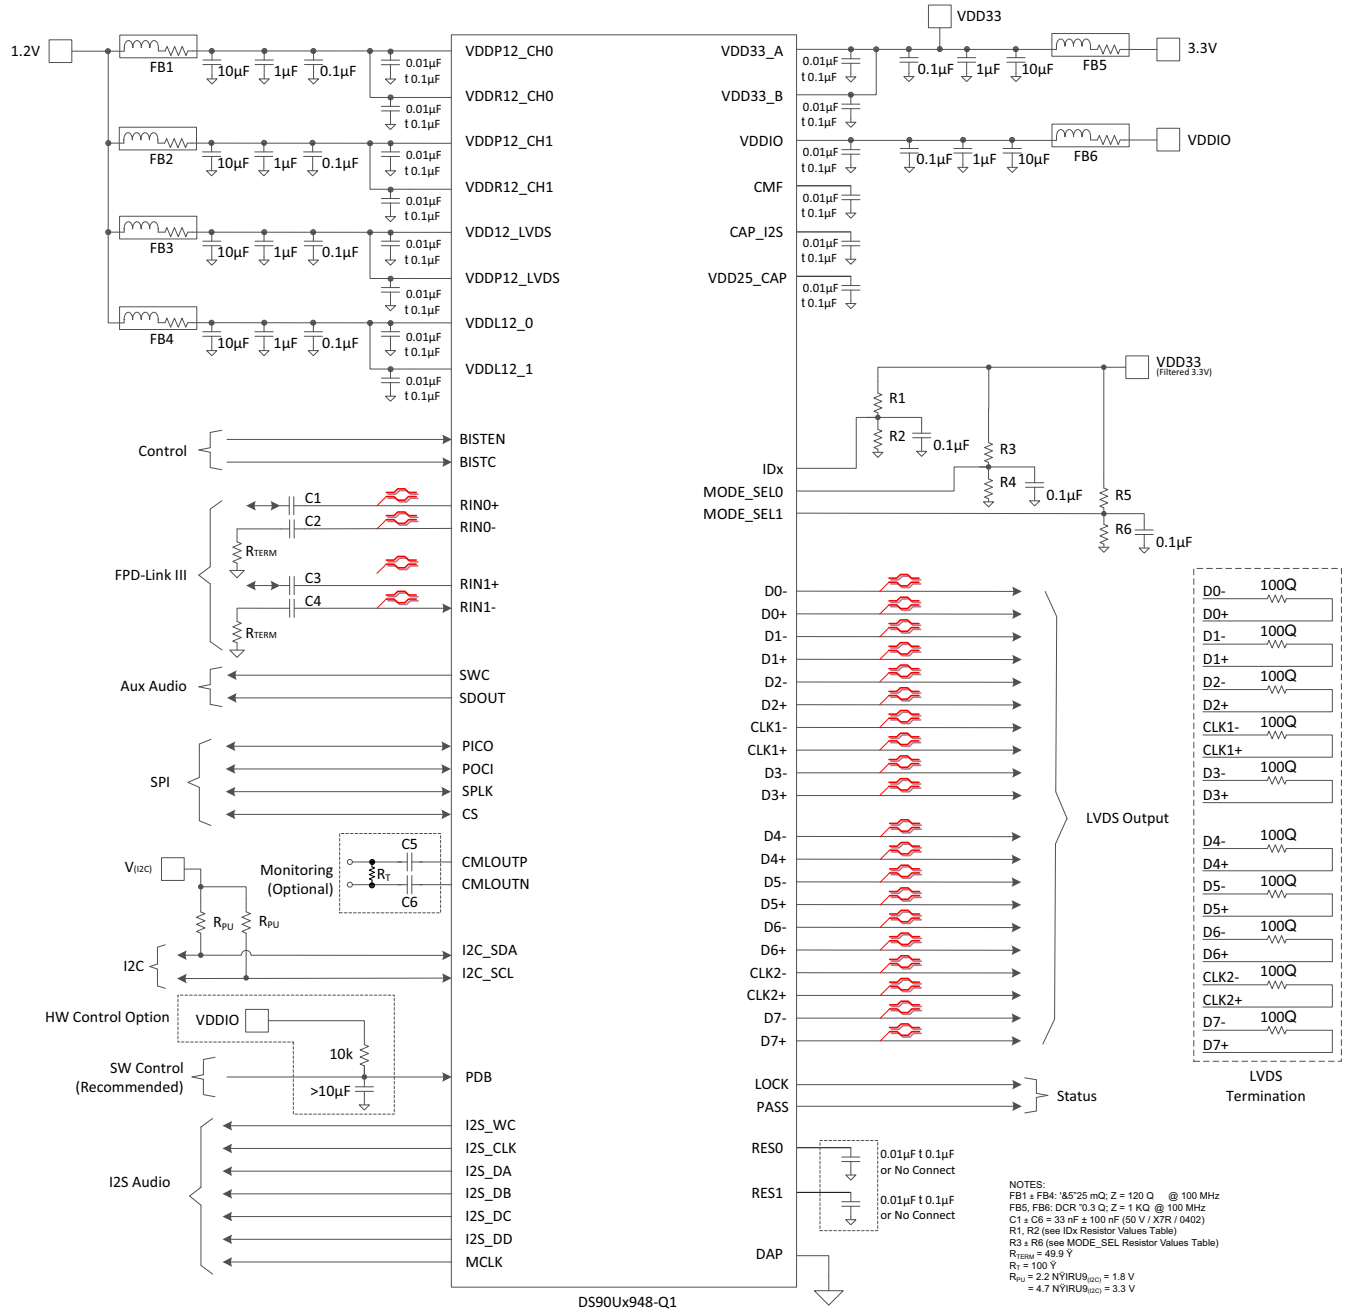
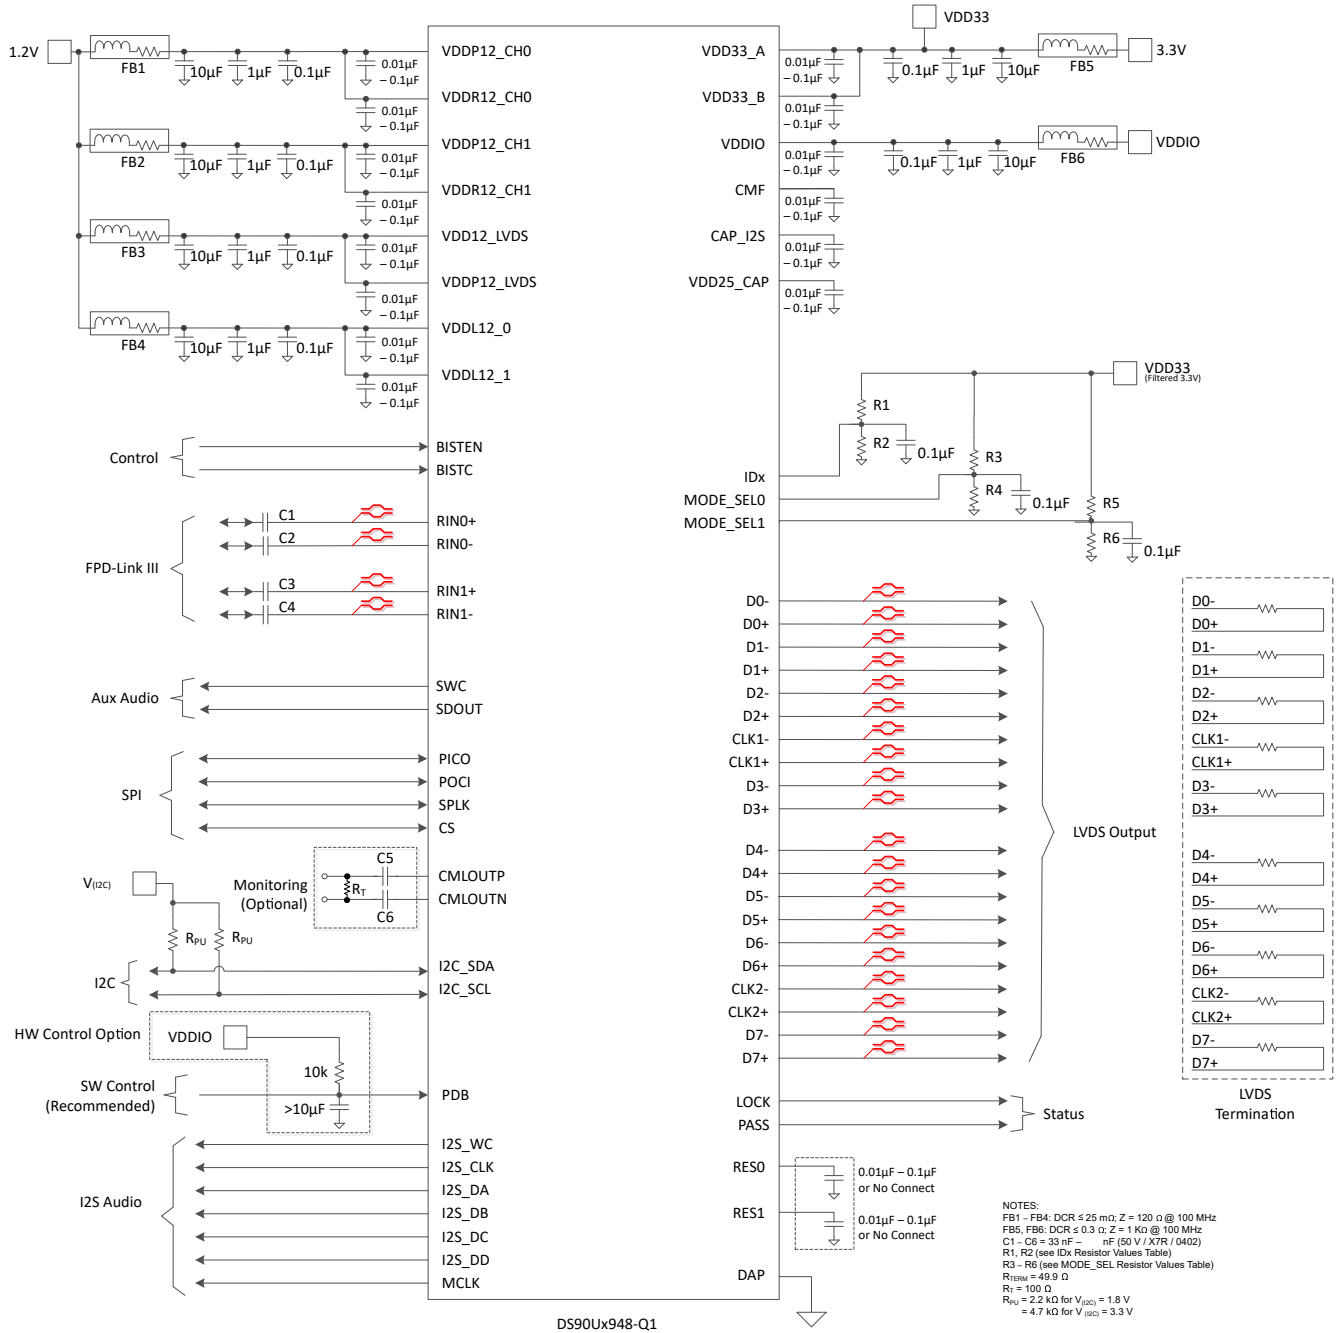

Figure 8-1. Typical Connection Diagram (Coax)
Figure 8-2. Typical Connection Diagram (STP)
Bypass capacitors must be placed near the power supply pins. At a minimum, use four (4) 10- μ F capacitors for local device bypassing. Ferrite beads are placed on the two sets of supply pins (VDD33 and VDDIO) for effective noise suppression. The interface to the graphics source is LVDS. The VDDIO pins may be connected to 3.3 V or 1.8 V. A capacitor and resistor are placed on the PDB pin to delay the enabling of the device until power is stable. See Figure 8-1 for a typical STP connection diagram and Figure 8-2 for a typical coax connection diagram.